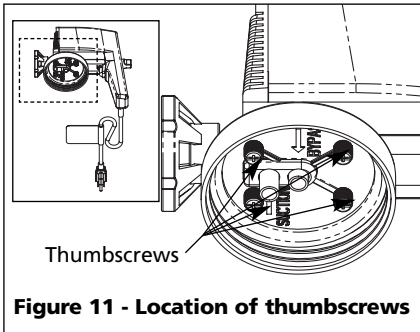

Figure 11 - Location of thumbscrews
- Remove thumbscrews from bottom of gun body (see Figure 11).